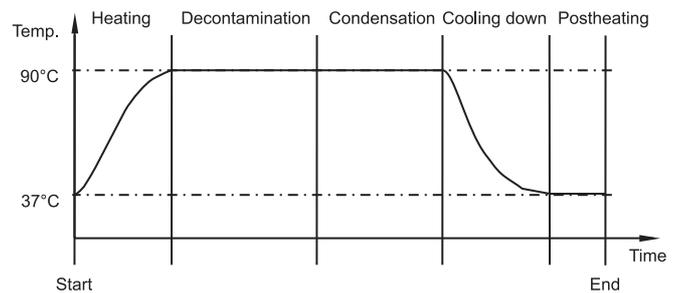

Fig.18: 90 °C decontamination routine procedure
**Fig.18:** The routine is divided into four phases. Each individual phase or several phases can be cancelled (i.e. skipped). If the operating step "Cancel decontamination routine" is executed, the routine moves to the next program phase. To cancel the routine completely, the operating step must be executed repeatedly until the remaining run time display shows the value 0. When the glass door is opened, this operating step cancels the routine completely.